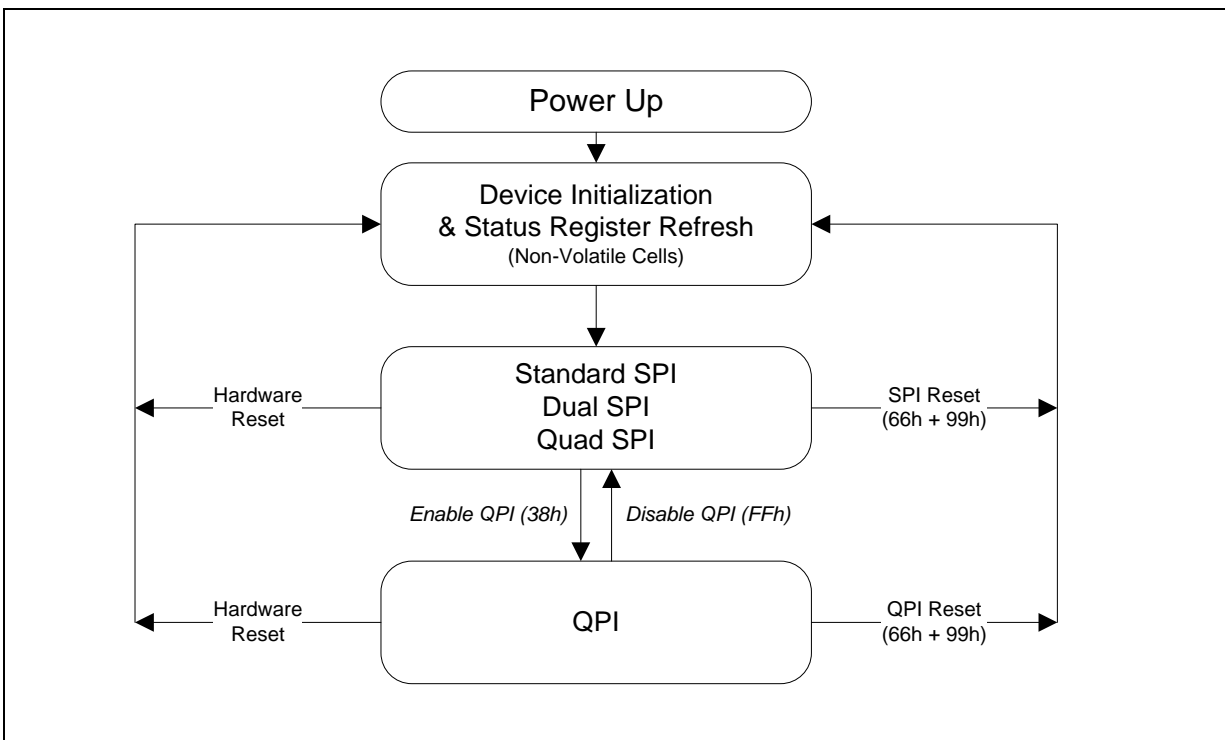

Figure 3. W25Q16RV Serial Flash Memory Operation Diagram
The W25Q16RV supports Quad Peripheral Interface (QPI) operations only when the device is switched from Standard/Dual/Quad SPI mode to QPI mode using the “Enter QPI (38h)” Instruction. The typical SPI protocol requires that the byte-long Instruction code being shifted into the device only via DI pin in eight serial clocks. The QPI mode utilizes all four IO pins to input the Instruction code, thus only two serial clocks are required. This can significantly reduce the SPI Instruction overhead and improve system performance in an XIP environment. Standard/Dual/Quad SPI mode and QPI mode are exclusive. Only one mode can be active at any given time. “Enter QPI (38h)” and “Exit QPI (FFh)” Instructions are used to switch between these two modes. Upon power-up or after a software reset using “Reset (99h)” Instruction, the default state of the device is Standard/Dual/Quad SPI mode. To enable QPI mode, the non-volatile Quad Enable bit (QE) in Status Register-2 is required to be set. When using QPI Instructions, the DI and DO pins become bidirectional IO0 and IO1, and the /WP and /HOLD pins become IO2 and IO3 respectively. See Figure 3 for the device operation modes.